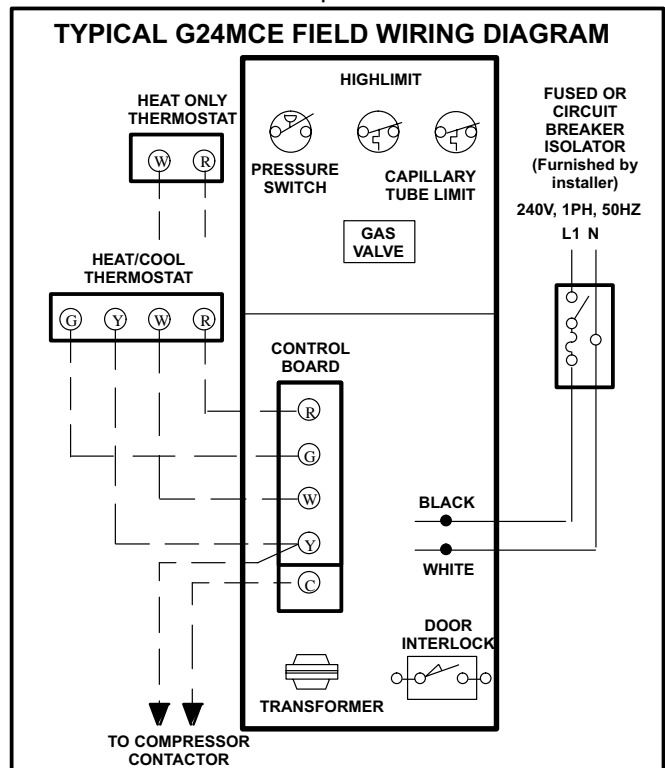
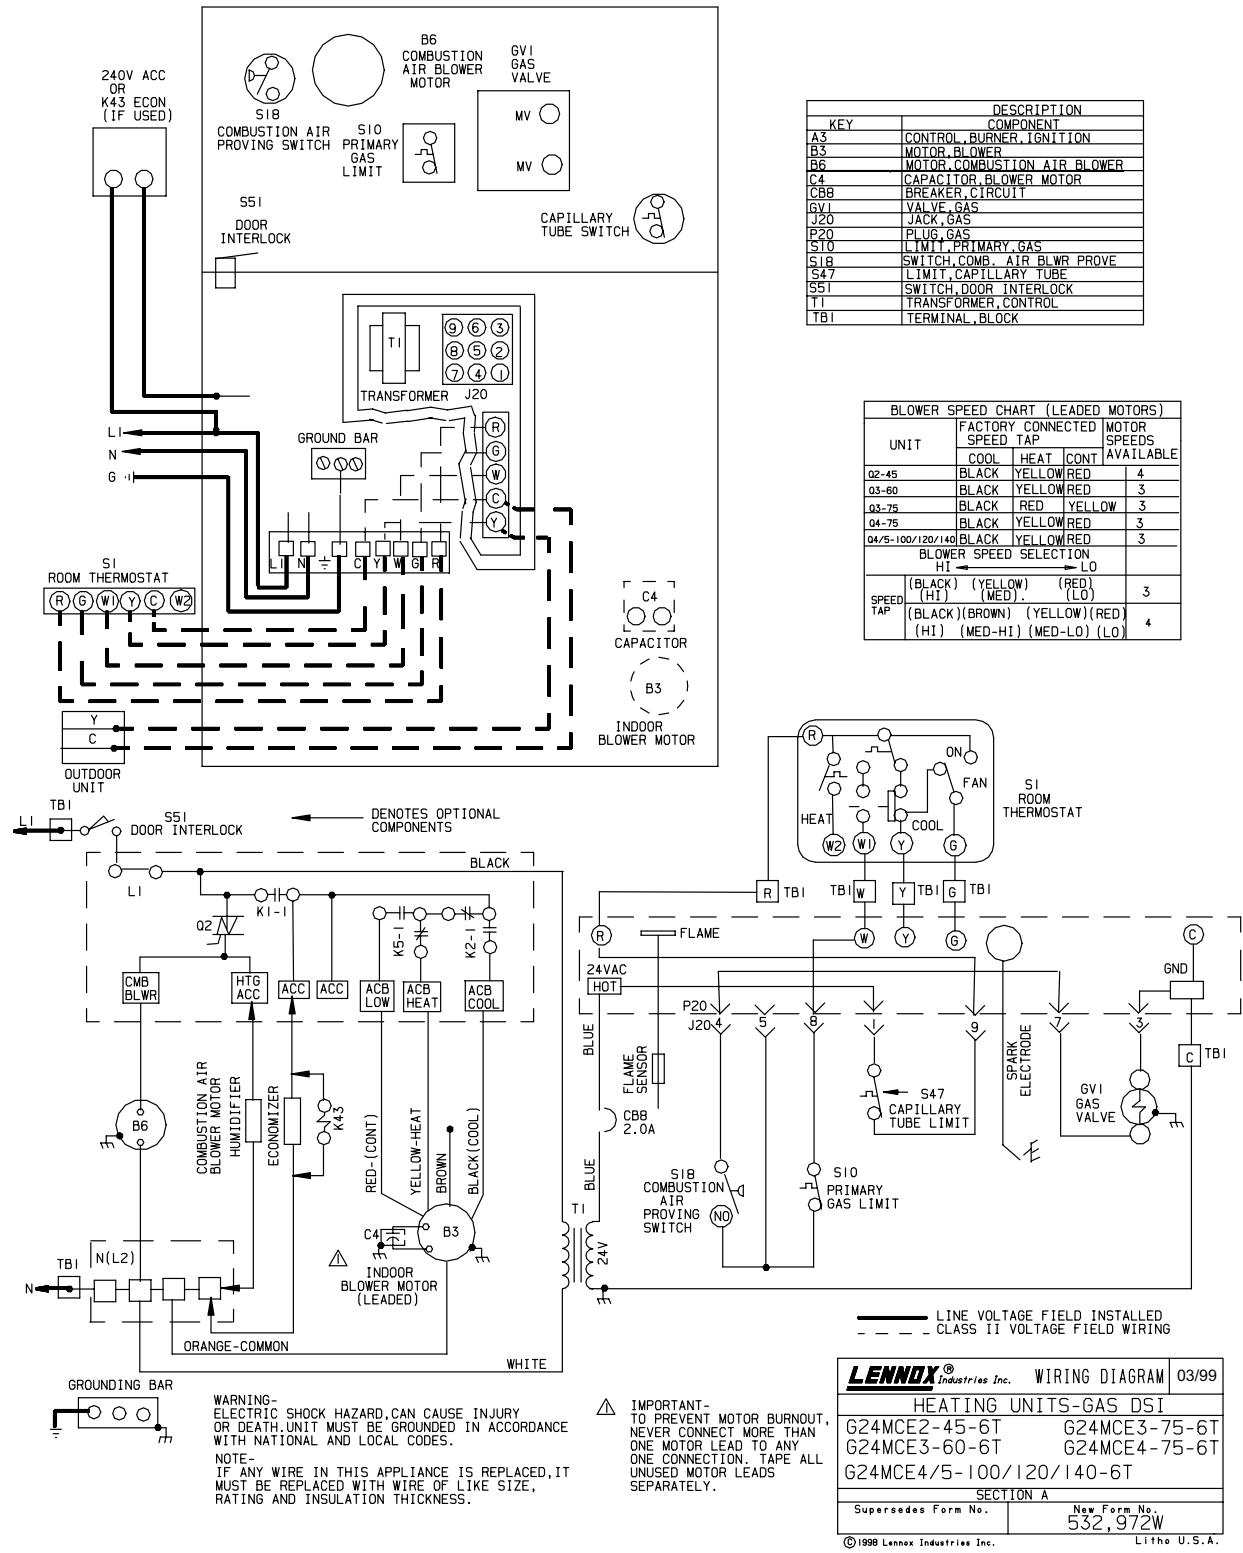

FIGURE 20
FIGURE 22
These units operate on 240 volt, single phase, 50 hertz electrical power. Refer to figure 20 for field wiring and figure 22 for schematic wiring diagram and troubleshooting.
- 6 - Complete wiring connections to equipment using wiring diagrams provided with unit and in field wiring diagrams shown in figures 20. Use 18 gauge wire or larger for thermostat connections.